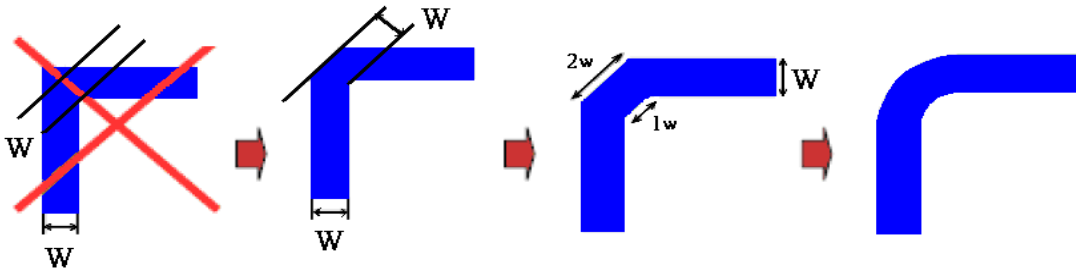

Fig.1 Turn Angle
1. If it's necessary to turn 90° , it's better to use two 45° turn or an arc, instead of making a single 90° turn as Figure 1. It can reduce reflection on the signal by minimizing impedance discontinuities.